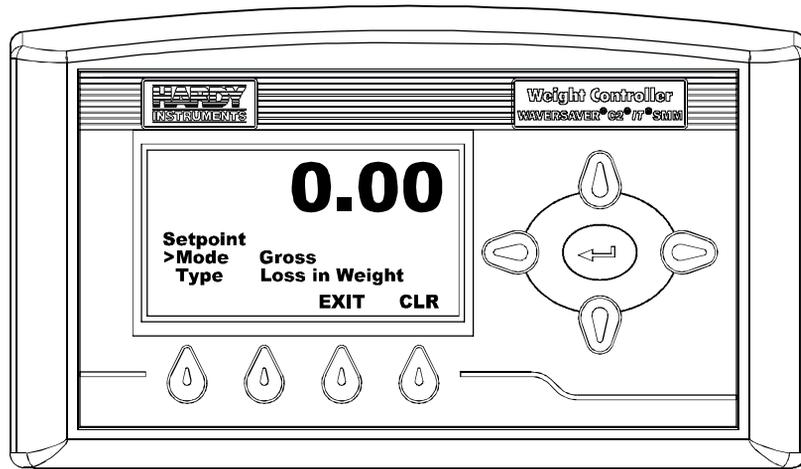

FIG. 56 SET POINT MENU/SELECTING MODE/GROSS
Step 5. Press the Down Arrow button until the cursor appears in front of Mode. (See Fig. 56)